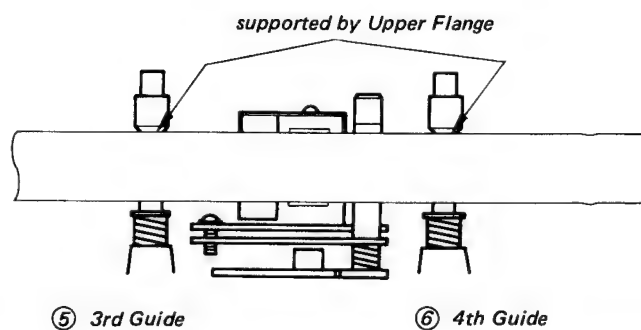

Fig. 5-116 Exit Side Tape Path
→ Proceed Exit guide adjustment. (refer to Fig. 5-116)
### 5-b. Exit side adjustment (Fig. 5-116)
2. The tilt adjustment screw ⑤ should be adjusted by a half quarter turn since the audio/control head assembly is adjusted critically in the vertical angle.
3. Do not tighten the 4th guide ⑥ too much since the audio level should be varied easily. (see Fig. 5-116)